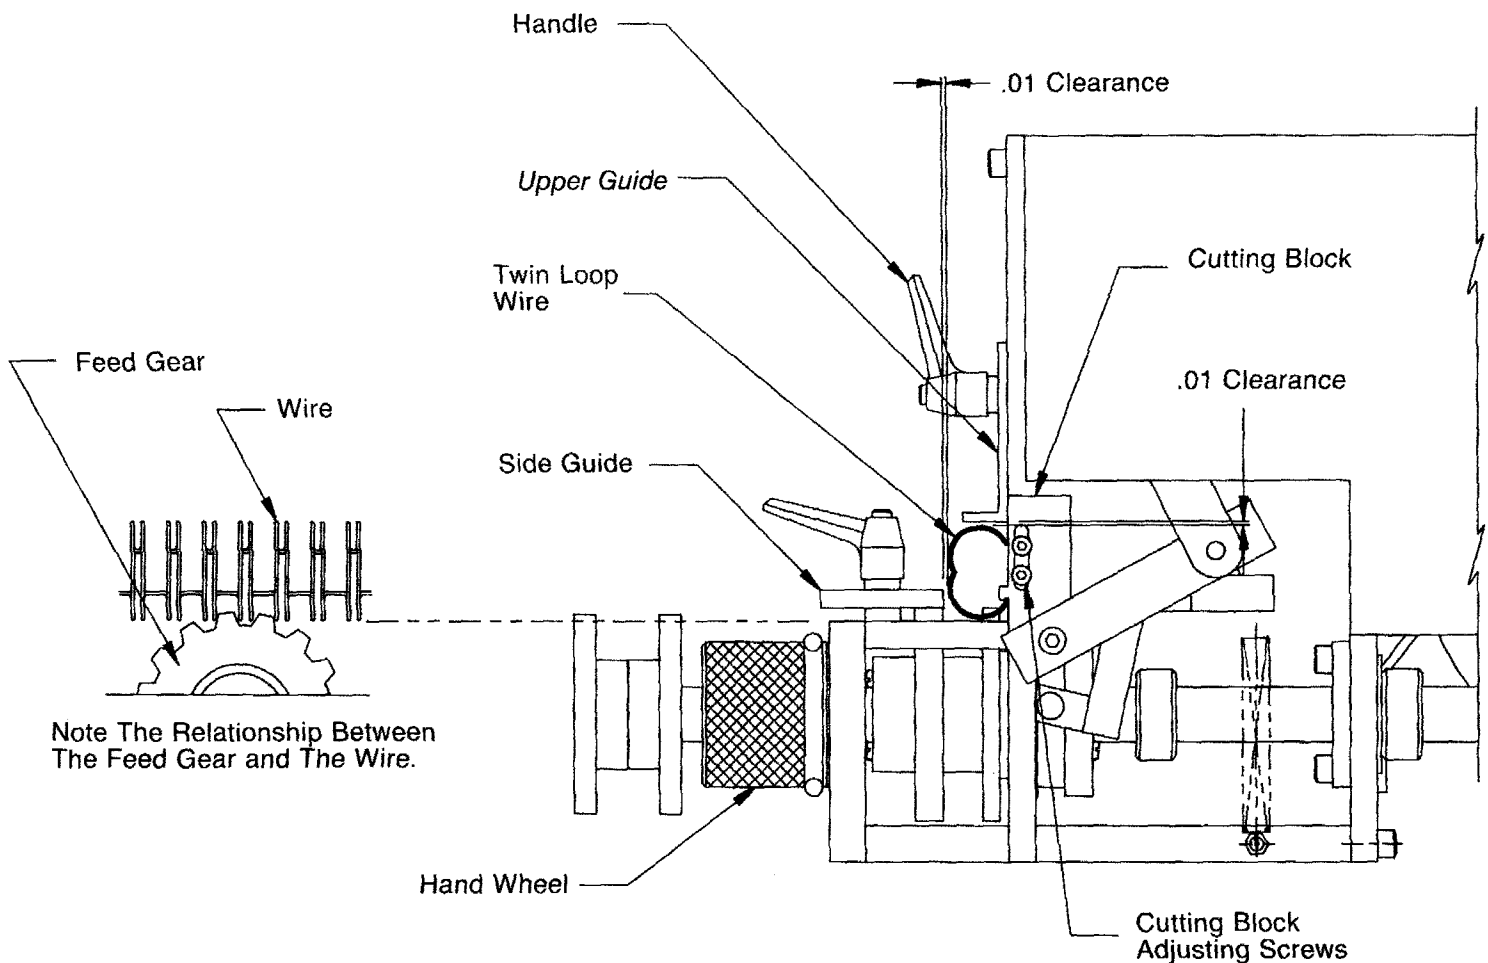
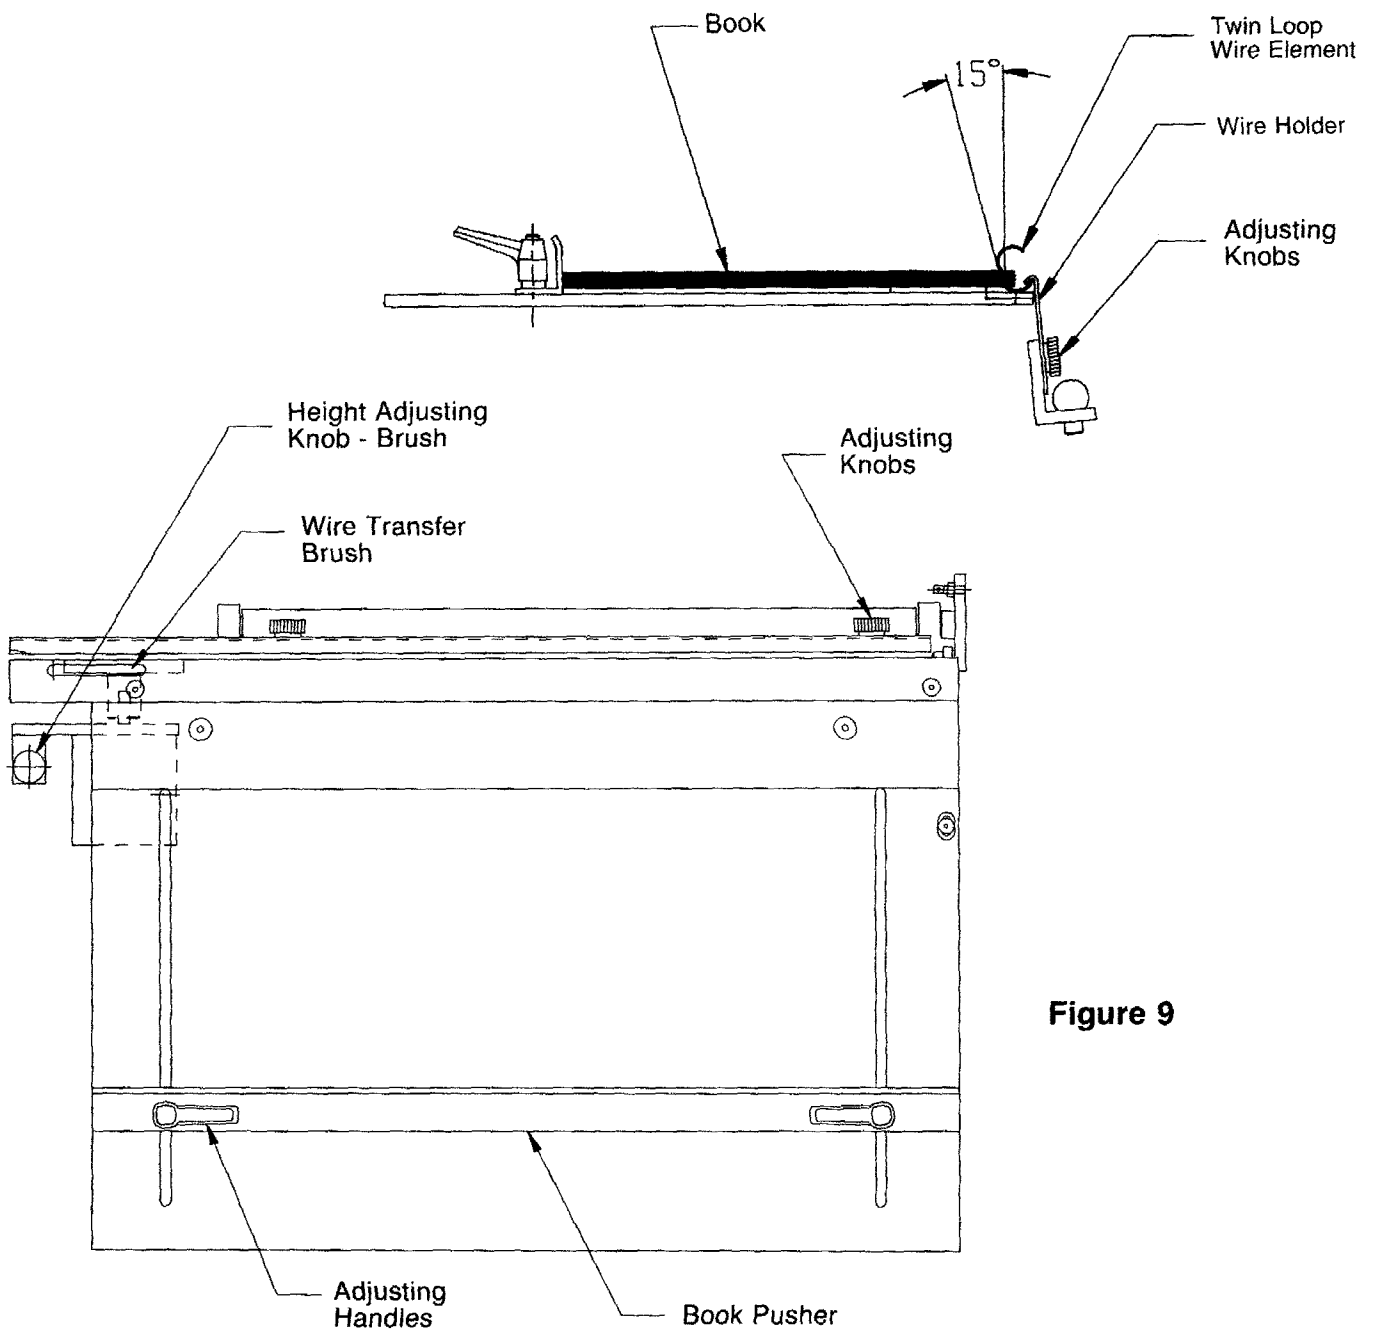

Figure 7
Figure 9
The upper and side guides should be adjusted so that the Twin Loop wire will travel back and forth freely (See Figure 7) but without too much room to move around.
2. Loosen the two adjustable handles for the upper guide and the side guide (see Fig. 7).
3. Insert the 12" long sample as shown in Figure 7.
4. To set the .01 clearance, use three (3) sheets of 20# bond paper as a gauge. Hold the open side of the wire up against the sideplate of the feed assembly. Insert the three sheets of paper and slide the guide up against the paper. Tighten the handles to secure the guide and remove the paper.
1. Using a 5/32 hex key, loosen the two (2) screws which secure the cutting block (see Figure 7). Adjust the height of the cutting block to allow the Twin Loop wire to pass freely under it. Tighten the screws to secure the cutting block. **NOTE: The height of the cutting block must be adjusted for each wire size.**
The set-up of the feed area is now complete. To double check, insert the 12" long sample piece again, into the guides. Slide the sample forward until it is stopped by the feed sprocket. Now rotate the handwheel (see Figure 7) in the clockwise direction and continue feeding the sample all the way through and past the cutting block. If the element does not go through freely, repeat Step #4 in the "Height and Width Adjustment of Guides" section on page 8 or repeat the above step.
1. **Adjusting the wire holder:** Using your 12" long sample piece of wire, feed it through the feed assembly (By turning the hand wheel, see Figure 7) right up to the loading area. Adjust the height of the wire holder (see Figure 9) by loosening the two adjusting knobs which hold the holder in place. Slide the holder up or down to allow for free movement of the wire. Enough room should be provided so the wire sits back on a 15 degree angle as shown in Figure 9. This angle will make it easier to load the book. Tighten the two adjusting knobs to secure the wire holder.
2. Adjusting the wire transfer brush height: The height of the transfer brush can be adjusted by turning the adjustment knob. (See *Figure 9*) Turn the knob clockwise to lower and counter-clockwise to raise the wire transfer brush. The height of the brush should be adjusted high enough so that after the knife cuts the wire the brush will move the cut piece of wire to the right approximately 4 inches. This will provide room for your left hand when loading a book onto the wire. *NOTE: If the transfer brush is adjusted too high, it will cause inconsistent cutting.*